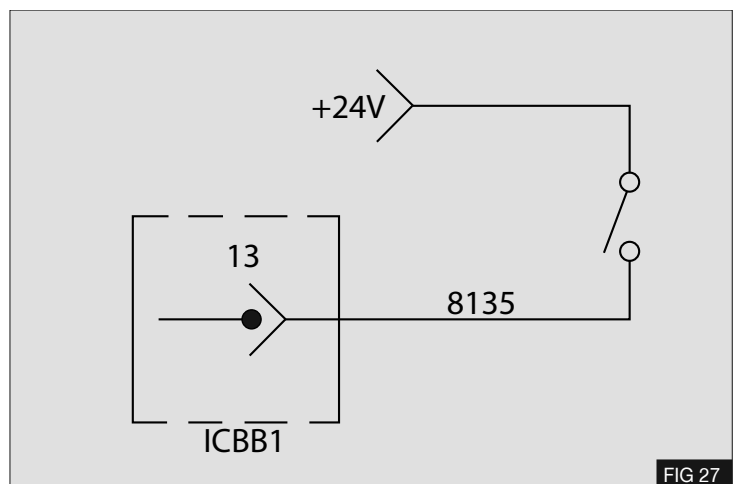

FIG 27
2. To be able use an extra pulley or a rear engine PTO (with a torque limitation) together with an ATO1056, ATO8006 or AT2412E gearbox, it is necessary to connect a wire between the body builder unit and the truck. This is used to communicate that torque is being consumed. The wire, from the body builder unit is connected to body builder connector ICBB1 pin 13. The information will be transferred to the gearbox ECU. T9091516 The input "Torque Consumption" is on connector ICBB1.13 (wire 8135). This input must be activated by connecting +24 V to pin ICBB1.13 whenever the body builder equipment consumes torque while the vehicle is moving. An example of this is a compressor (refrigerator application). - Fig 27